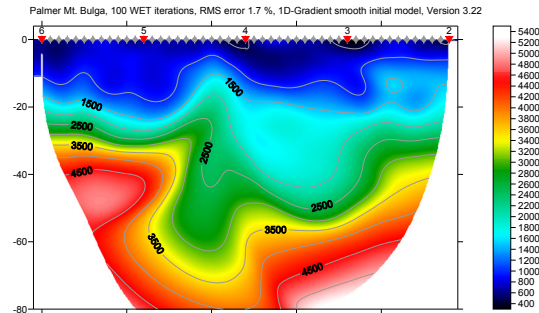

Fig. 16 : 100 WET iterations, wavepath width 7.5%. RMS error is 1.7%, starting model is Fig. 5.
- click buttons *Accept parameters* and *Start tomography processing*. Obtain Fig. 16 and 17.